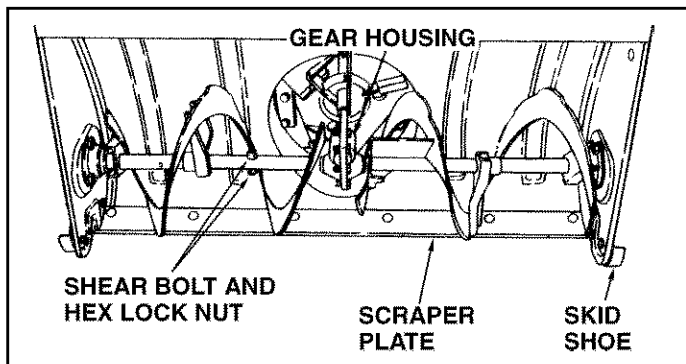

FIGURE 27
CHECK SCRAPER AND SHOES FOR WEAR (Refer to figures 27 and 28 on page 18.)
- If the augers will not turn, check to see if the shear bolts have sheared. See figure 27. Two replacement shear bolts and hex lock nuts have been provided with the snow thrower. For future use order part number 710-0891 shear bolt and number 43064 hex lock nut.